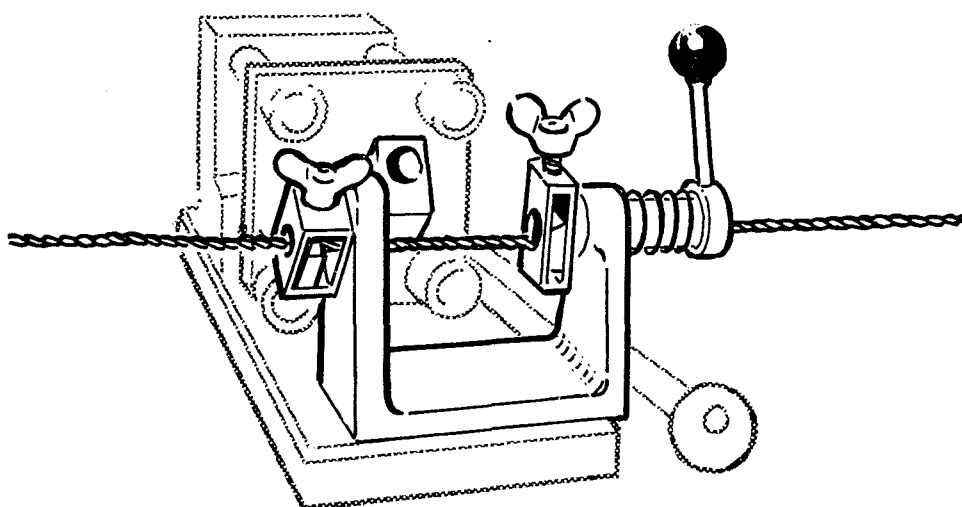

Fig 10.8 Rope Clamped in the Twisting and Cutting Device
- Pass the rope from left to right through the clamping dogs on the twisting and cutting device until the point where the rope is to be cut is midway between the two dogs. Then tighten the wing nuts on the dogs to clamp the rope in position (Fig 10.8).